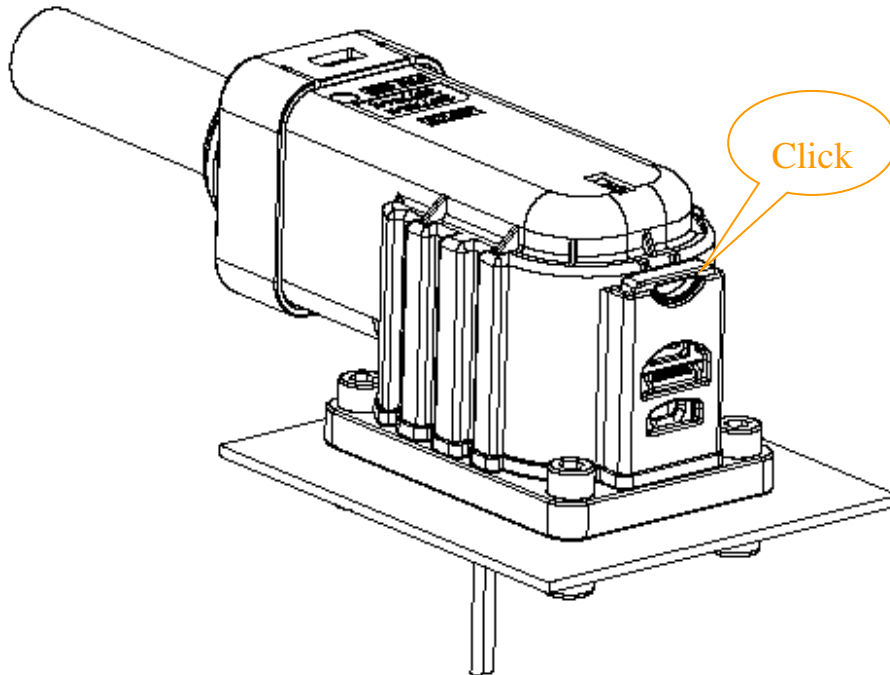

Figure 30: Connector totally mated view
C. Press CPA to second-lock position until engages with a click as shown in figure 30. Pull lightly on the HVP1100-1P plug assembly to verify that the plug and header are fully latched.